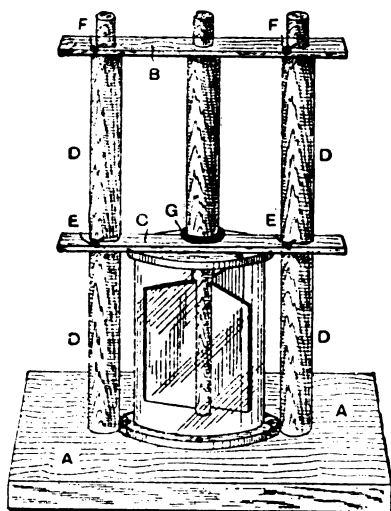
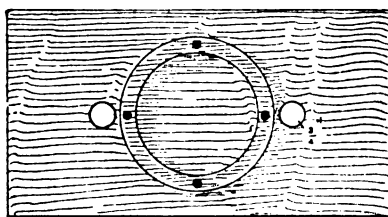

FIG. 1
FIG. 2
**Simple Churn.**—The household churn illustrated by Fig. 1 will make 1 lb. of butter at a time, taking for the operation ten minutes. In cold weather the time is slightly longer, but if the cream is warmed, slightly less. It has stood the test of experience in all weathers and climates. The container is an ordinary preserved-plum jar about 6 in. by 3 in.; of course, any vessel of similar size may be used, and earthenware or tin might be employed, but a glass bottle is much the best, as the process may be watched. The bottom portion of the dasher (below the collar) should be grooved out to fit the dasher blades, 1 in. deep; the grooves should be a fit with the dasher blades, so that when wetted and swelled they are fixed tight. When the dasher is ready, slip the container cover on from the bottom (the hole in the cover is 1 in.), slide the dasher blades into their grooves, and drop the whole into water for an hour, when the blades will be found quite tight. The base A is 1 ft. long, 6 in. wide, and 1 in. thick, with a 1-in. projecting ring 3 in. internal diameter (see Fig. 2). The top fastener B (Fig. 1) and cover fastener C (see Figs. 3 and 4) are 1 in. thick. The standards D (Fig. 1) are 1 in. in diameter and 1 ft. long, exclusive of 1-in. ends 1 in. in diameter, with a hole in the centre of each for pins E, and others in 1-in. ends for the pins F. These pins are made from No. 16 B.W.G. brass-wire, 3 in. long, exclusive of the head. Fig. 5 shows a plan and section of the container cover. It is 1 in. thick and 5 in. in outer diameter, with a 1-in. groove, 1 in.
from the edge, and a central 1-in. hole. The dasher has three blades, 1 in. wide, 4 in. maximum and 3 in. minimum length, and 1-in. holes. Fig. 6 shows the shape of one of the blades. The centre spindle is 1 in. in diameter at the top, with a 1-in. pin 1 in. long, the diameter of the spindle being reduced to 1 in. for the blades. The collar G (Fig. 1) is 1 in. thick and 1 in. in diameter. To use the machine, slip the container into the bottom ring (see Fig. 2), fill it three-quarters full with cream, put in the dasher, fix the cover on the bottle, slide the cover fastener on from the top, and fix it hard down on the cover by the two pins, which should fit tight into the holes in the standard just level with the top of the cover. Now slide on the top fastener and fix it similarly with two pins, fasten the churn by a cramp to a table top, take half a dozen turns with string round the dasher stem above the collar, and pull it sharply to and fro. To prevent losing the pins, they should be fastened to the standards by small staples and strings. When not in use, always keep the container full of clean water, with the dasher in position. The woodwork should be made of teak, which will stand the wetting and drying, and does not taint the butter.